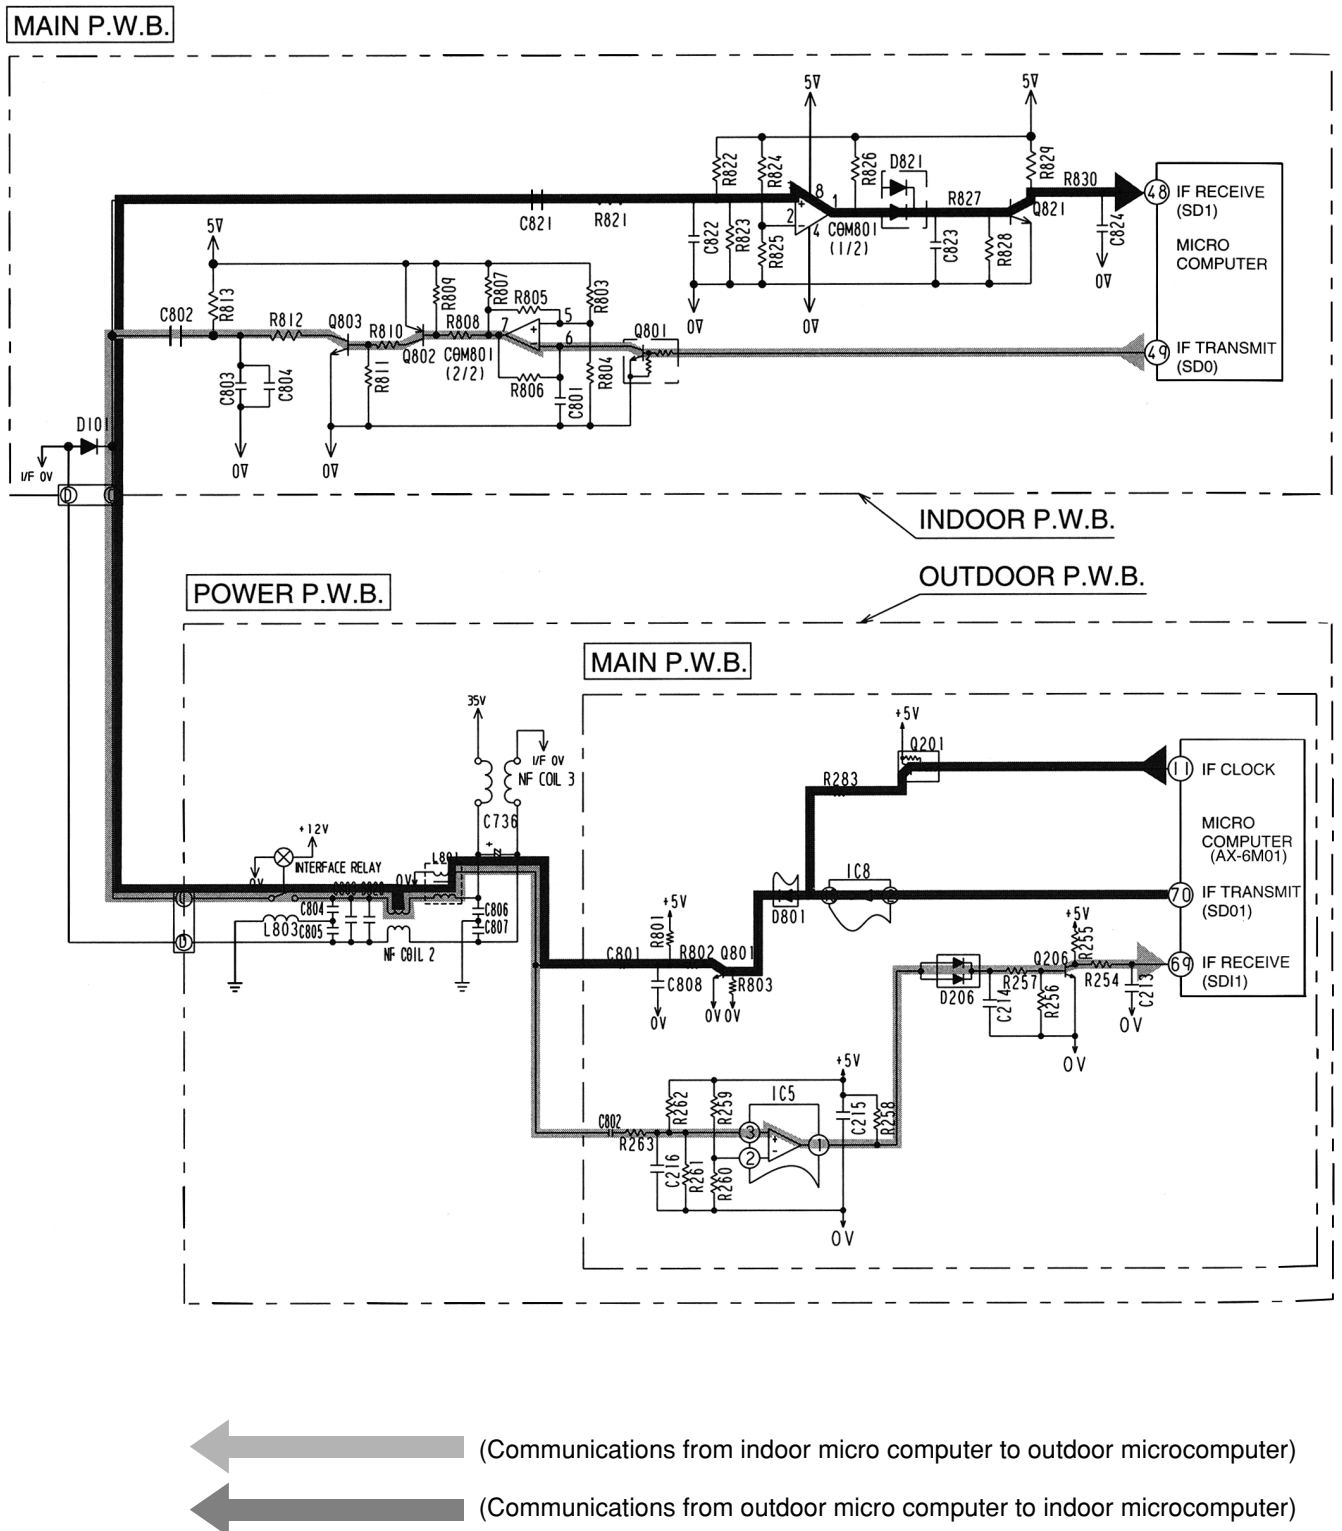

Fig. 2-1 Indoor / outdoor interface Circuit
- Fig. 2-1 shows the interface circuit used for the indoor and outdoor micro computers to communicate with each other.